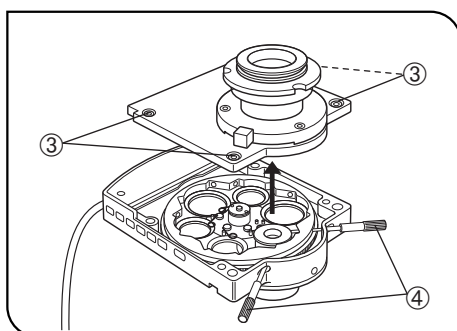

Fig. 47
With the IX2-LWUCDA2 motorized condenser, remove the four clamping screws ③ using the Allen screwdriver and remove the top cover. (Fig. 47)